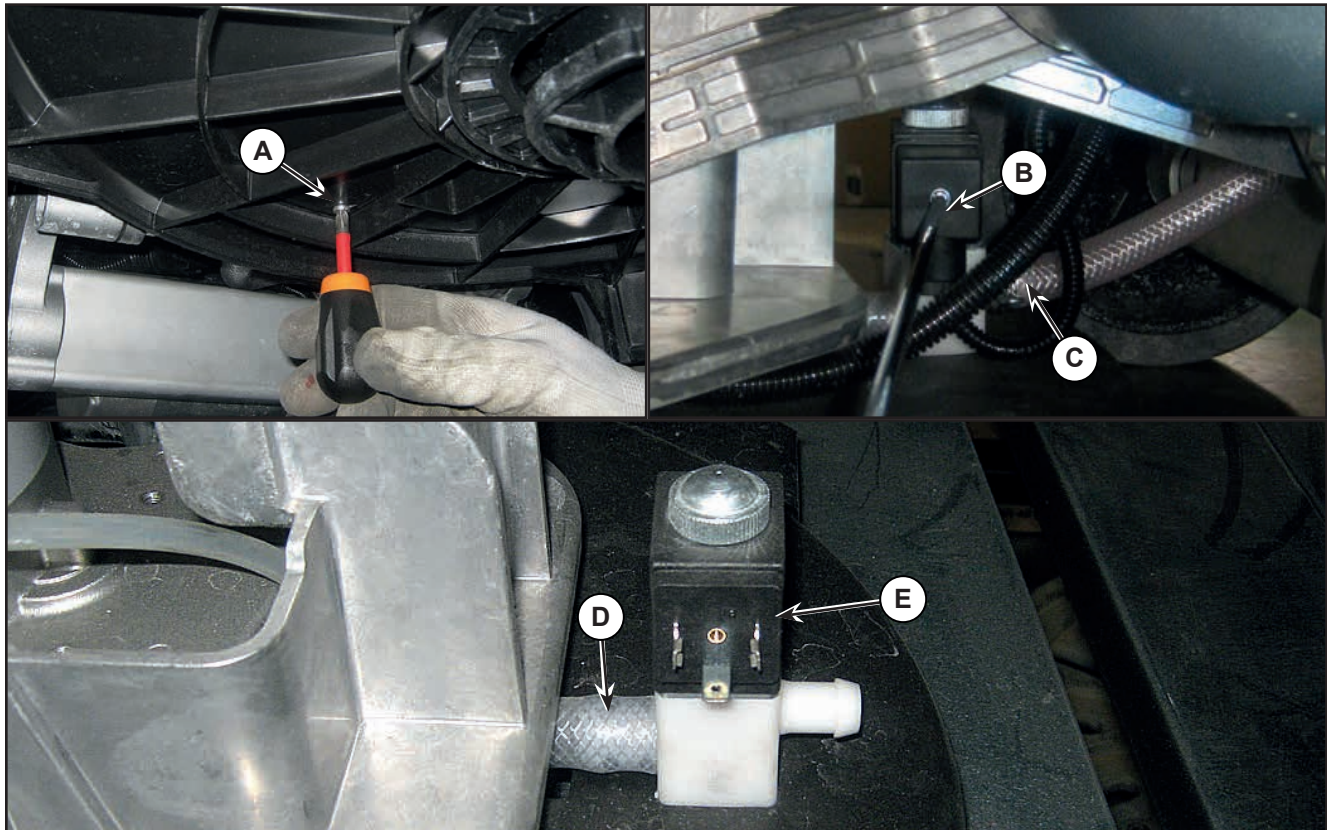

Figure 11:
3. Remove the two screws (A) (Figure 11) under the brush deck.
6. Unscrew and disconnect the connection (B).
7. Remove the elastic clamp (C) and disconnect the detergent supply hose (D) from the solenoid valve.
8. Disassemble the solenoid valve (E).